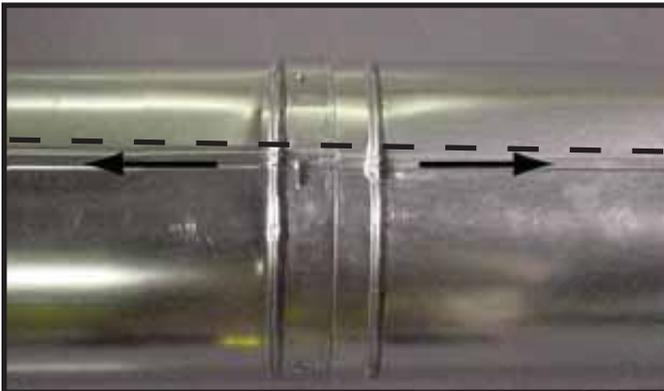

Figure 10.10 Align and Disassemble Vent Sections
- Rotate either section (see Figure 10.10) so the seams on both pipe sections are aligned as shown in Figure 10.10.